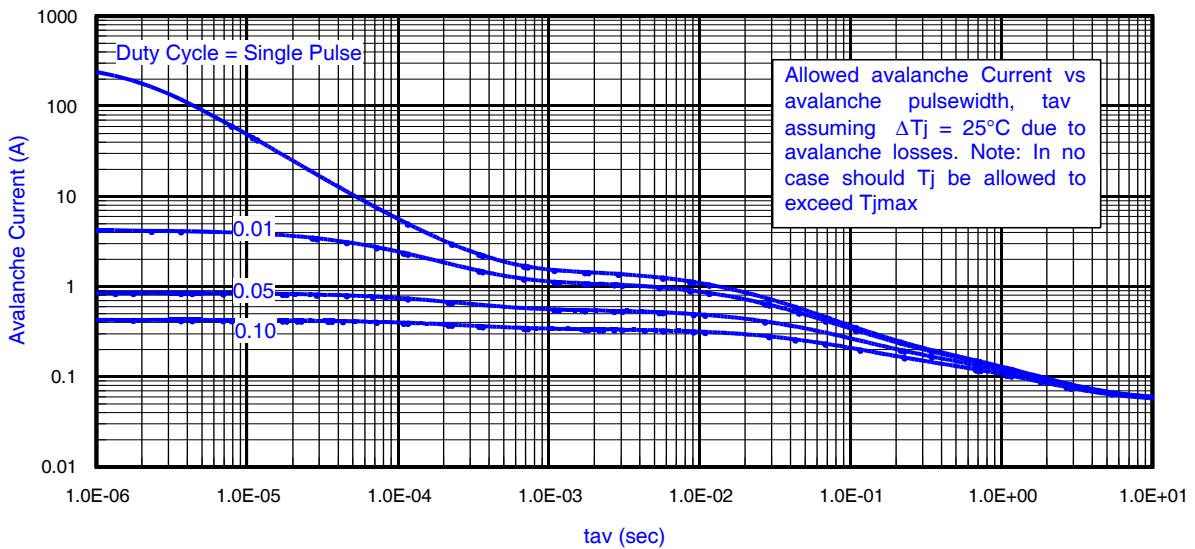

Fig 14. Typical Avalanche Current vs. Pulsewidth
Notes on Repetitive Avalanche Curves , Figures 14, 15: (For further info, see AN-1005 at www.irf.com)
7. ΔT = Allowable rise in junction temperature, not to exceed T_{jmax} (assumed as 25°C in Figure 14, 15).